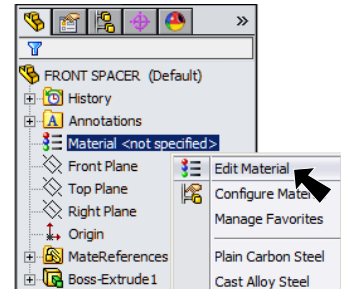

Fig. 8
Step 1. **Right click** **Material**  in the Feature Manager and click **Edit Material**, **Fig. 8**.